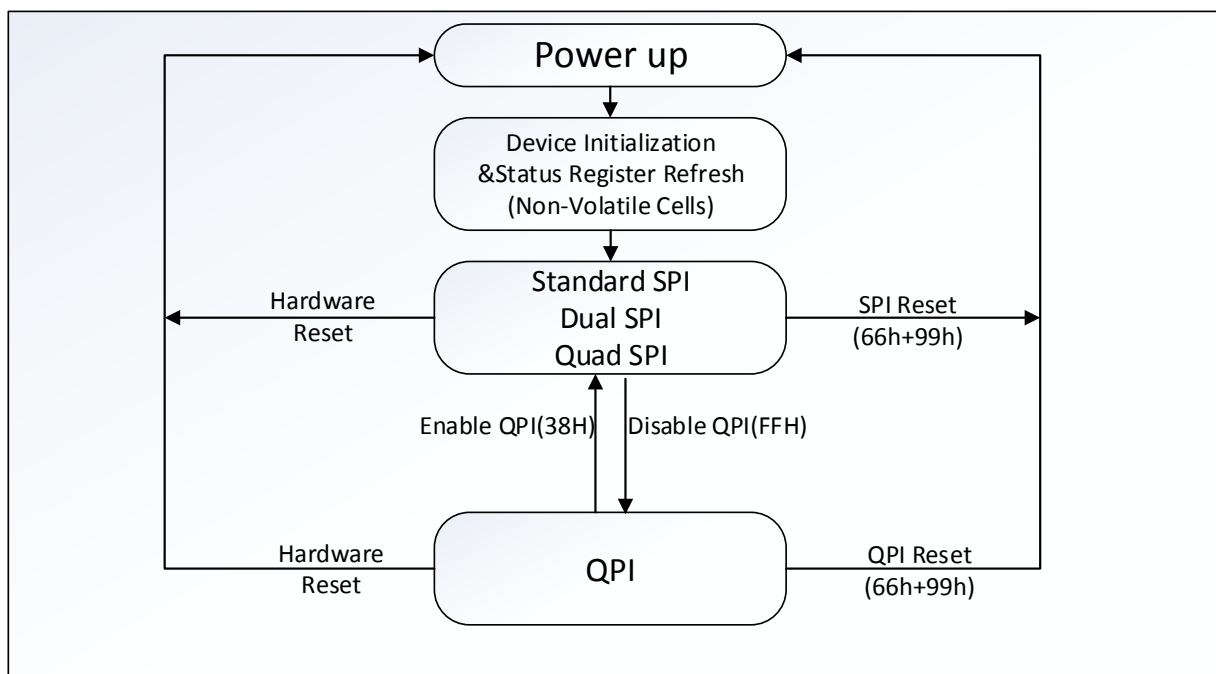

Figure 3. XM25QH32C Serial Flash Memory Operation Diagram
The XM25QH32C supports Quad Peripheral Interface (QPI) operations only when the device is switched from Standard/Dual/Quad SPI mode to QPI mode using the “Enter QPI (38h)” instruction. The typical SPI protocol requires that the byte-long instruction code being shifted into the device only via DI pin in eight serial clocks. The QPI mode utilizes all four IO pins to input the instruction code, thus only two serial clocks are required. This can significantly reduce the SPI instruction overhead and improve system performance in an XIP environment. Standard/Dual/Quad SPI mode and QPI mode are exclusive. Only one mode can be active at any given time. “Enter QPI (38h)” and “Exit QPI (FFh)” instructions are used to switch between these two modes. Upon power-up or after a software reset using “Reset (99h)” instruction, the default state of the device is Standard/Dual/Quad SPI mode. To enable QPI mode, the non-volatile Quad Enable bit (QE) in Status Register-2 is required to be set. When using QPI instructions, the DI and DO pins become bidirectional IO0 and IO1, and the /WP and /HOLD pins become IO2 and IO3 respectively. See Figure 3 for the device operation modes.